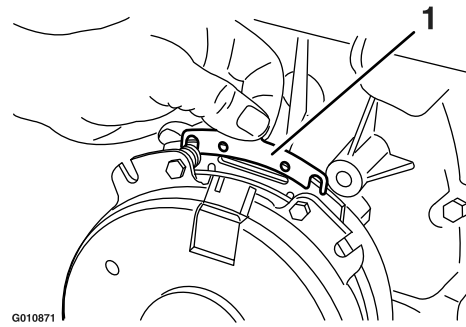

Figure 70
- B. Using needle-nose pliers, or by hand, hold the tab and remove the shim (Figure 70).